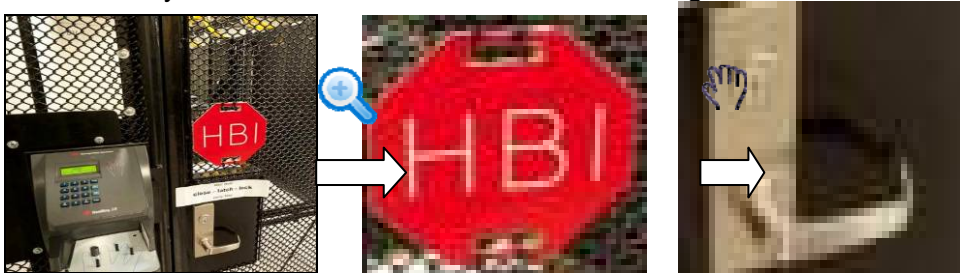

Figure 4-10
- Put the middle button at the centre of the zone you want to zoom in, and move the mouse, you can view an interface shown as in Figure 4-10.